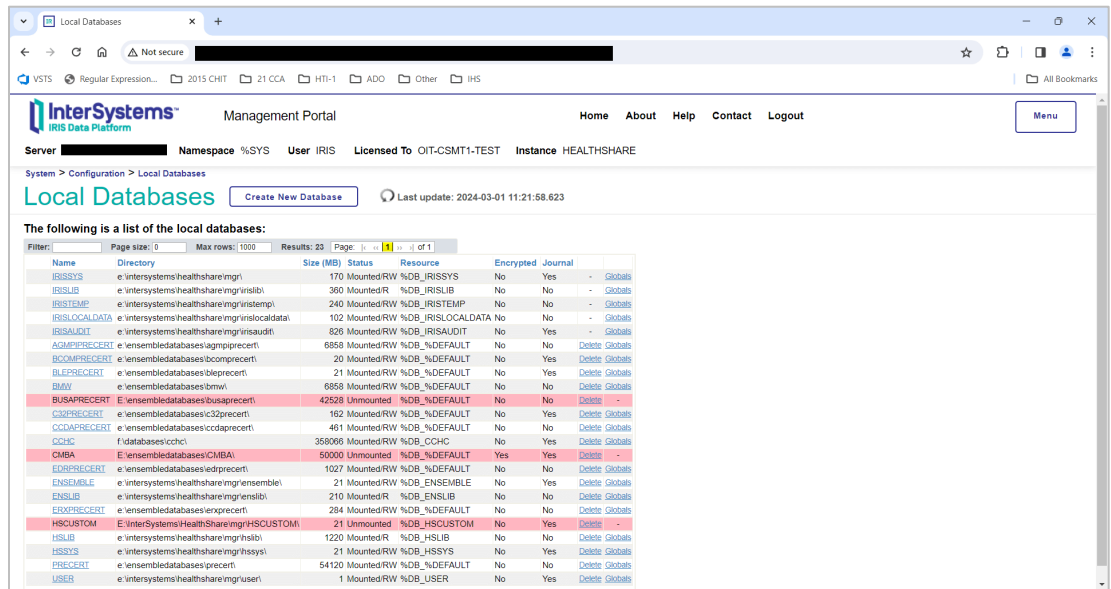

Figure 4-8: Local Databases page
2. On the **Local Databases** page, locate the production RPMS database in the list and make a note of the resource associated with the database, as shown in Figure 4-8.